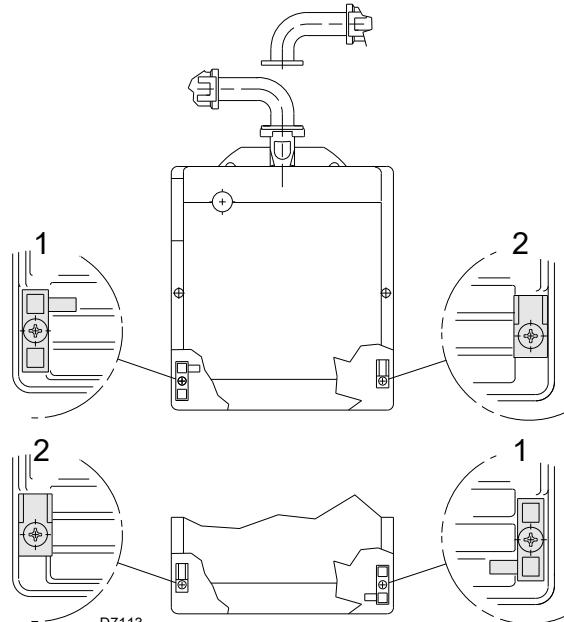

Fig. 17
Key (Fig. 17)
To calculate the required gas pressure at test point M2)(Fig. 17 on page 19), with the maximum modulating output at which you want the burner to operate having been fixed:
- subtract the pressure in the combustion chamber from the pressure of the gas at test point M2)(Fig. 17 on page 19).
Gas pressure at test point M2)(Fig. 17) = 10.0 mbar